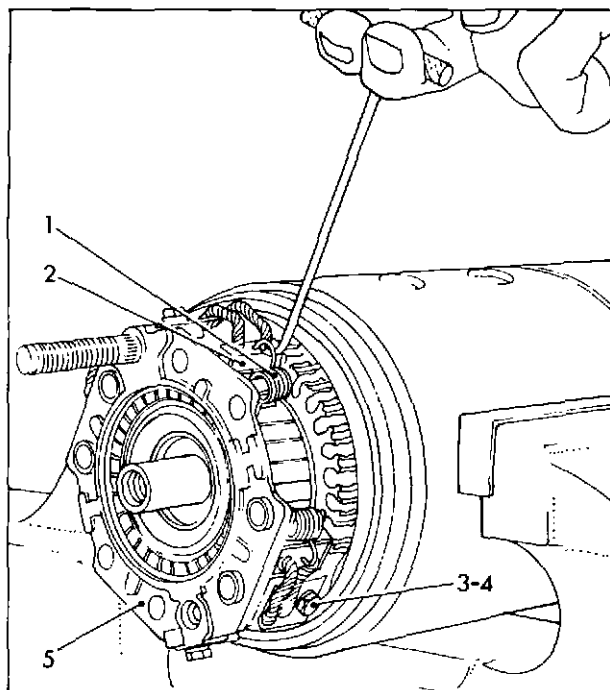

Fig. 3 Removing brushgear
Brushgear (fig. 3)
Lift each brush spring (1) fig. 3 in turn and remove the brush (2) from its holder. Remove the screws (3) and spring washers (4) connecting leads and field coil connectors to brush boxes. Complete brushgear assembly can now be removed.